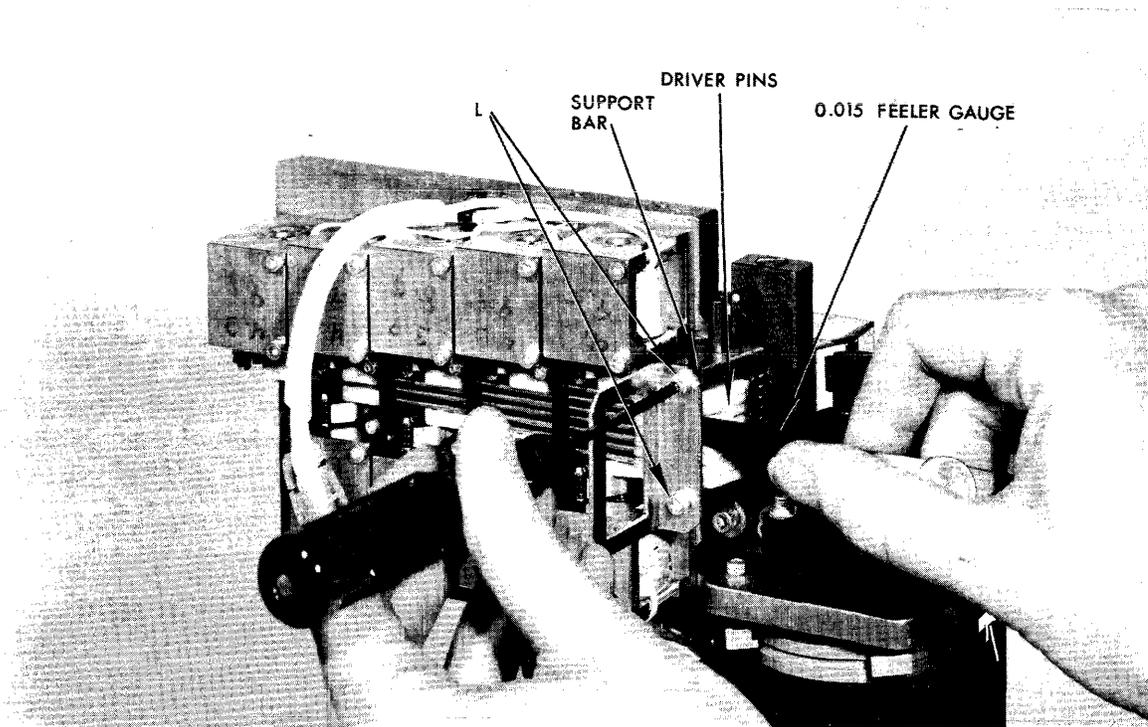

Figure 6-5. Adjustment of Support Bar and Support Bracket.
- a. Remove the two 4-40 binder head screws (L) which hold the support bracket, support bar and connector to the perforator housing. Earlier units have two 0.005 shims on each side installed between the support bar and perforator housing. Care should be used not to lose these shims. Note the order of assembly for correct replacement. Screws labeled (L) in Figure 6-5 are the same screws labeled (L) in Figure 7-1.
- b. In the hole from which the screws in step a were removed, loosen the two set screws (M) which hold driver pin in place. Remove the pin.
- c. Remove the 8-32 socket head screw (G) and washer of the solenoid associated with the pin driver to be remove. This screw is located on the opposite side of the housing from the solenoids. Solenoids 4,5,6, 7 and 8 require that the side plate be removed to gain access to the screw (G). Two screws (N) and two washers (washers on under side of plate) are used to hold the side plate to the perforator housing.
- d. Remove screws (P) which hold the pin driver guides to the perforator housing. Remove as many guides as required to replace the pin driver. Note that these screws have had screw lock applied and may be somewhat difficult to loosen. When replacing these screws add a new application of screw lock.
- f. Perform the reverse of step d,c,b, and then a. When installing the support bar and support bracket, make sure the two 0.005 shims (if present) are installed under the support bar. Use a feeler gauge to obtain a 0.015 gap between the support bar and the top of the driver pins. Refer to Figure 6-5.